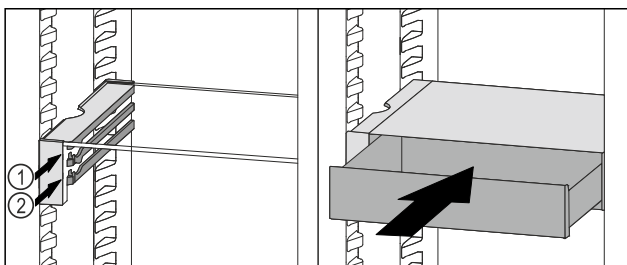

Fig. 81
- ▶ Place the VarioSafe drawer behind the stoppers on desired rib Fig. 81 (1) or Fig. 81 (2).